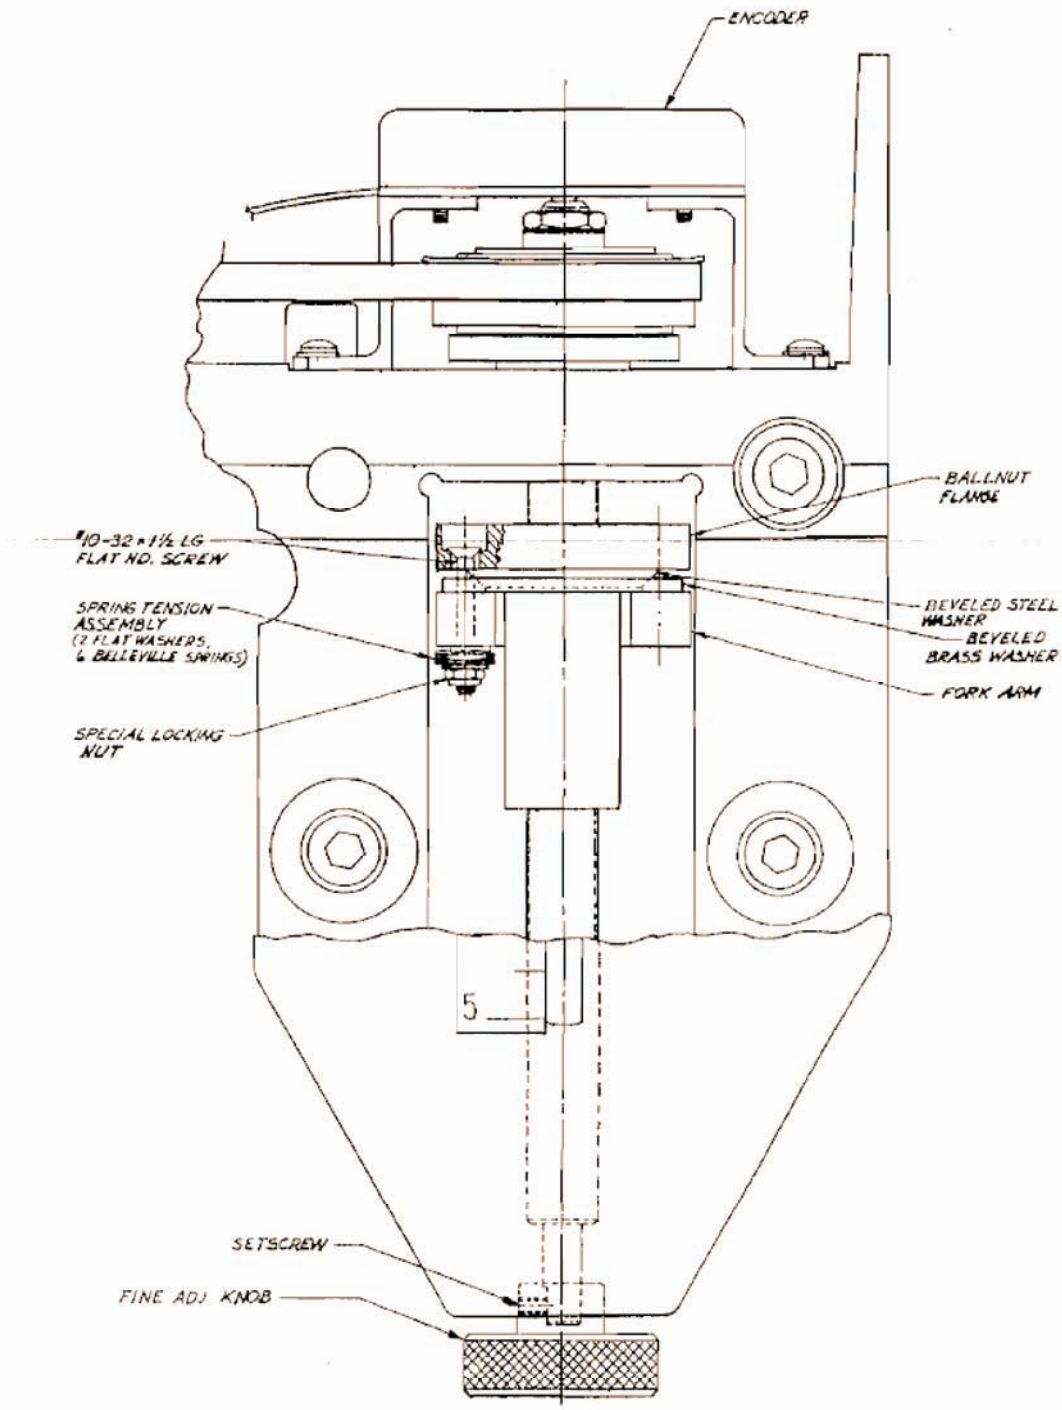

Figure 3-7
Step 12 (see figure 3-7)
Step 13 (see figure 3-7)
Step 14 (see figure 3-7)
Step 15 (see figure 3-7)